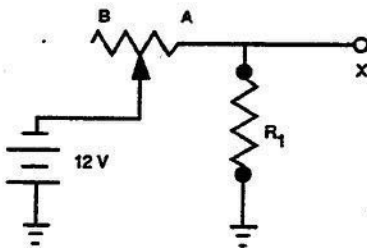

Figure 2-19. Rheostat as a voltage divider.
**Rheostats.** A rheostat is a variable resistor that may be used as a control to vary the amount of current that flows through a voltage divider. A typical circuit in which a rheostat is used is shown in figure 2-19. Since the rheostat controls the current, it determines the voltage drop between point X and ground.